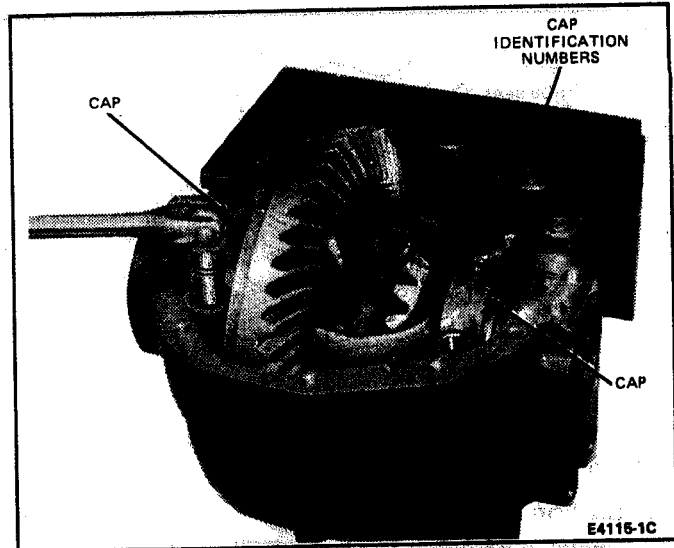

FIG. 18 Removing Bearing Caps
3. Place the carrier in a holding fixture, remove and clean all gasket surfaces and remove the bearing caps (Fig. 18). Note the matched numbers or letters stamped on the cap and carrier. These numbers or letters must be matched upon assembly.